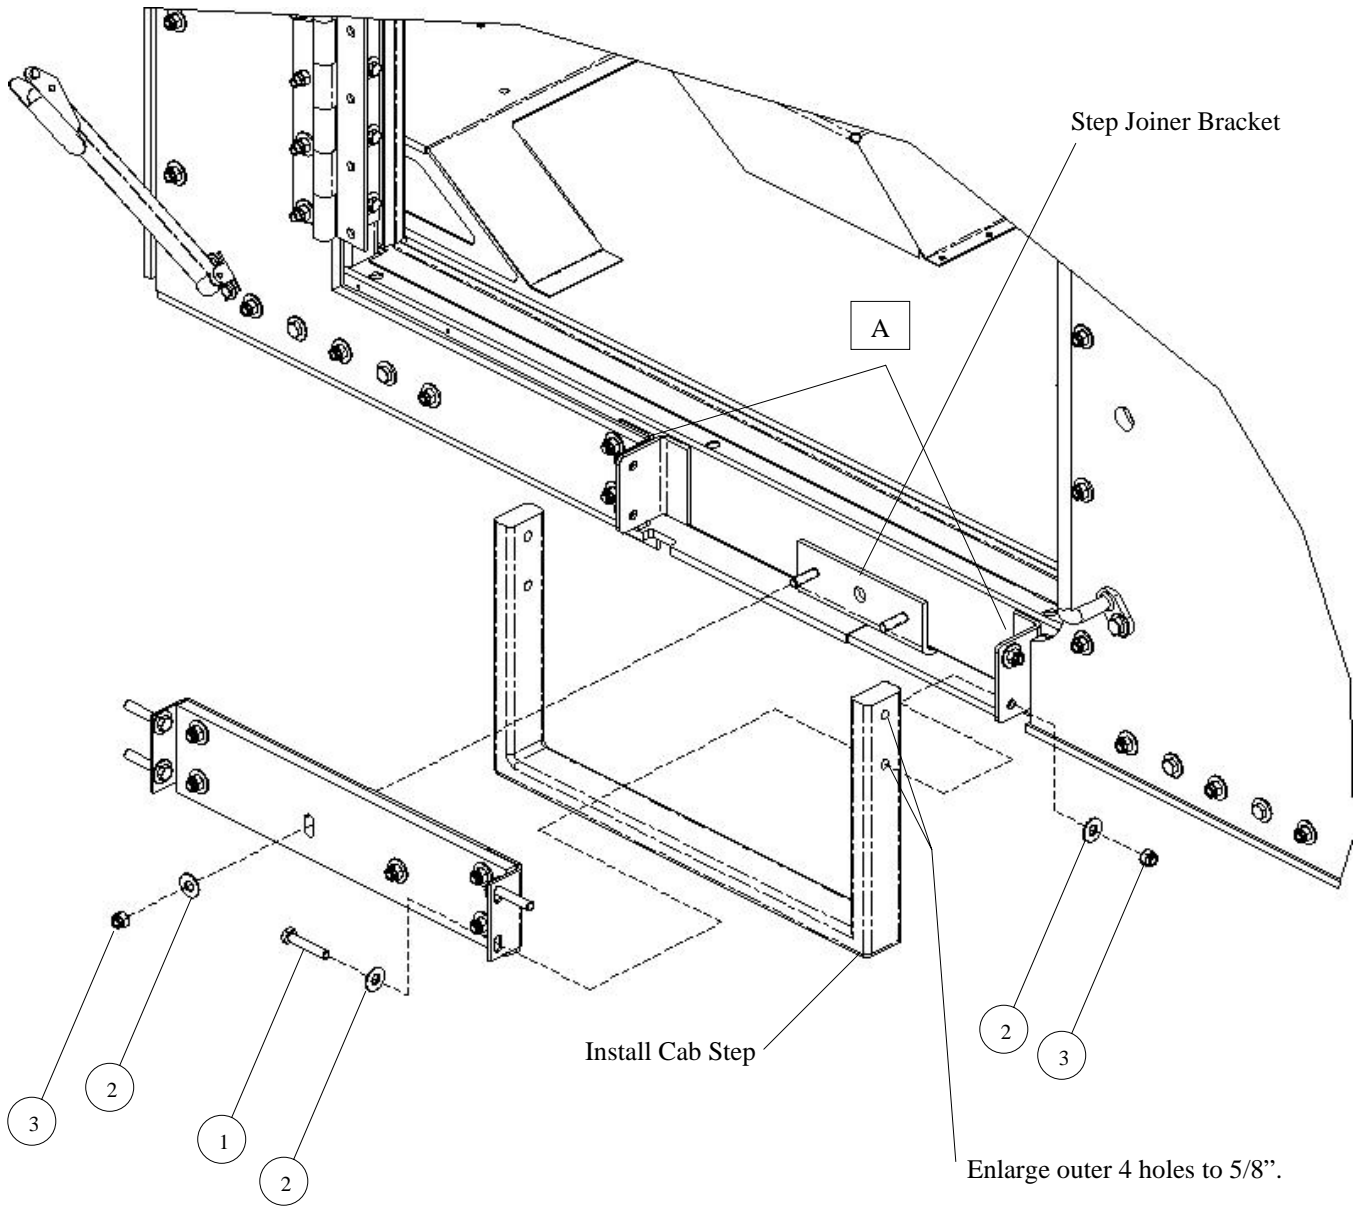

Figure 3-66. Left Step Panel Installation.
2. Install left step panel assembly as follows (see Figure 3-66):
- a. Enlarge outer four holes in cab step to  $\varnothing 5/8$ ". This allows the position of the step to be lowered slightly during re-installation for necessary clearance of the new armored door seal. The top edge of step brackets should be trimmed down approximately 1/8 in. along edges marked "A" in Figure 3-66.
- b. Install left step panel assembly into position with original cab step, between welded step brackets on cab frame and against step joiner bracket and secure with four bolts (1), eight flat washers (2), and four locknuts (3). Torque locknuts to 35 lb-ft.
- c. Install two flat washers (2) and locknuts (3) onto studs of step joiner bracket. Torque locknuts to 23 lb-ft. (Be sure to lower the position of the cab step.)